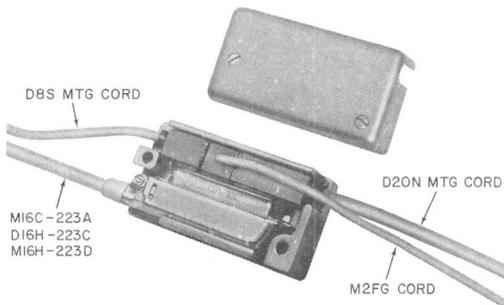

Fig. 6—223A (MD), 223C, or 223D Adapter
**F. 223A (MD), 223C, or 223D Adapters**
2.17 The 223-type adapter (Fig. 6) interconnects the 680-type transmitter, the 108-type loudspeaker set, the 85B1 power unit and certain